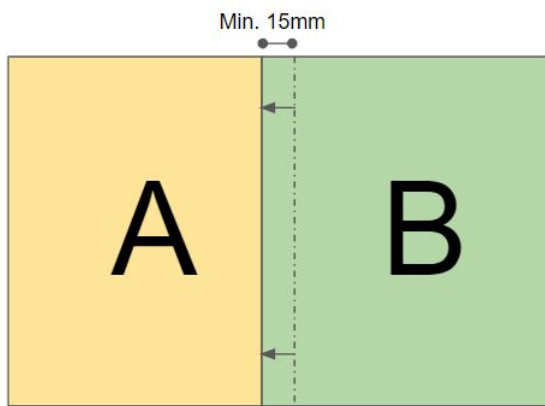

Fig 1
- Simple overlap seams: requires an easy overlap of at least 15 mm. **Fig 1**